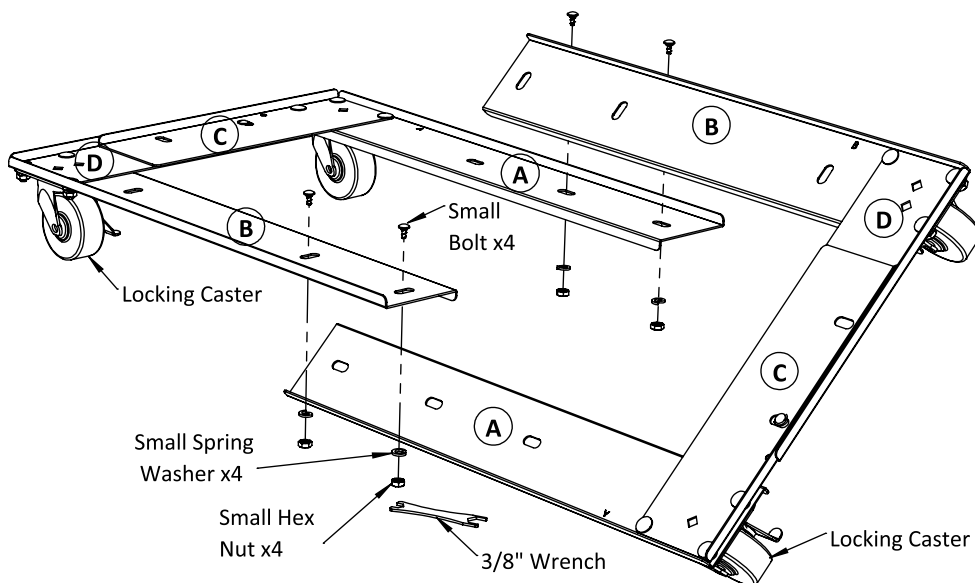

Figure 6
9. Locate the two sub-assemblies with the Locking Casters. With the parts right-side up, position Rail B on top of Rail A, and align the holes to the corresponding length of your cabinet. Secure the rails together using Small Bolts, Small Lock Washers, and Small Hex Nuts. **Figure 6**